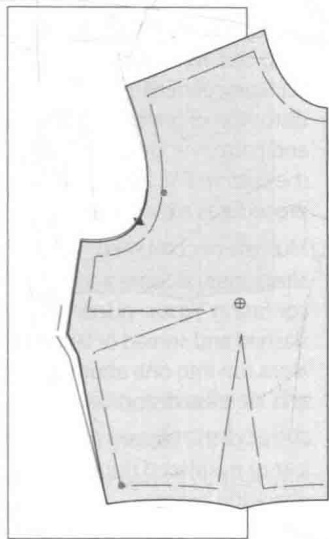

FIGURE 6.29d Return pattern to original position (as indicated by the asterisk in front of 2 in Figure 6.29e).
- To *increase* an *uneven* amount of length or width, use the pivot point(s) along the stitching line and pivot the duplicate away from the pattern or traced area (see Figure 6.29d and e).